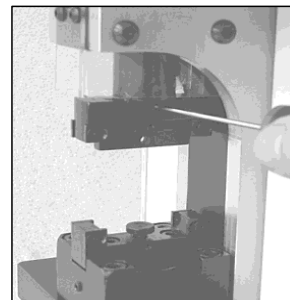

Fig. 9.02
- **Slightly tighten the T-Bolt by turning the hole-nut clock wise. (Fig. 9.02)**